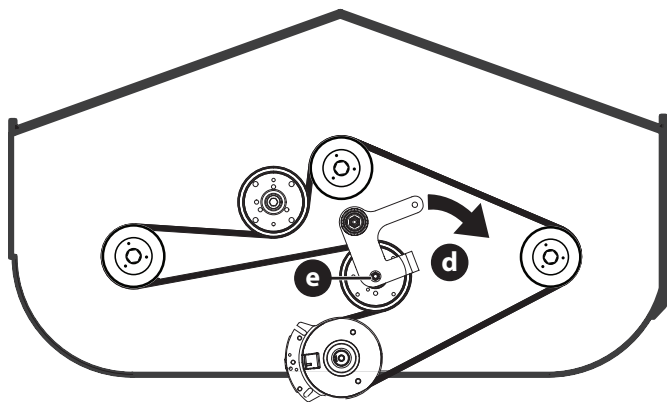

Fig. 42
- Rotate the deck idler assembly clockwise (Fig. 42).
- Loosen deck idler pulley nut (e) (Fig. 42).
- Route the new belt as shown in Fig. 42. Then reinstall the deck and PTO belt as instructed on page 24.